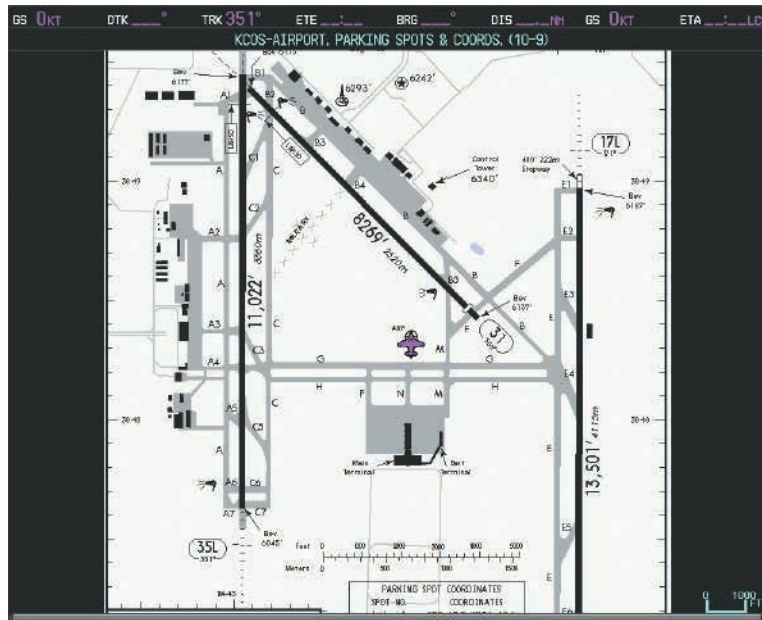

Figure 8-10 Airport Chart for Selected Airport
- 3) Touch the **Airport Chart** Button. The **Info** Tab selections are displayed on the Touchscreen Controller (Figure 8-7) and the Airport Diagram is displayed on the MFD Display (Figure 8-10).